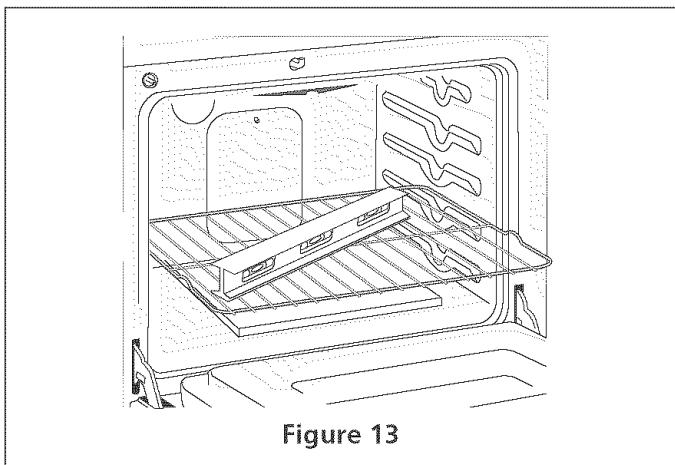

Figure 13
1. Install an oven rack in the center of the upper oven (see Figure 13).